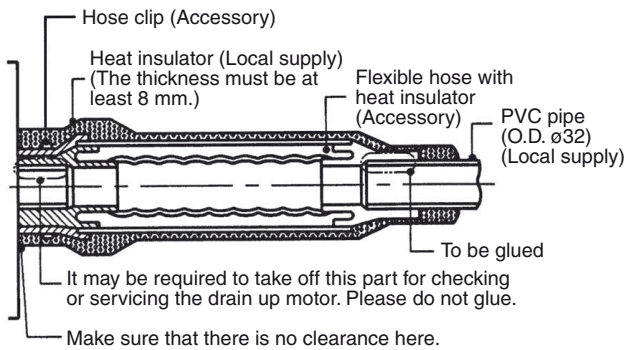

Fig.3-8
- Tighten the hose clamps so their locking nuts face upward. (Fig. 3-8)